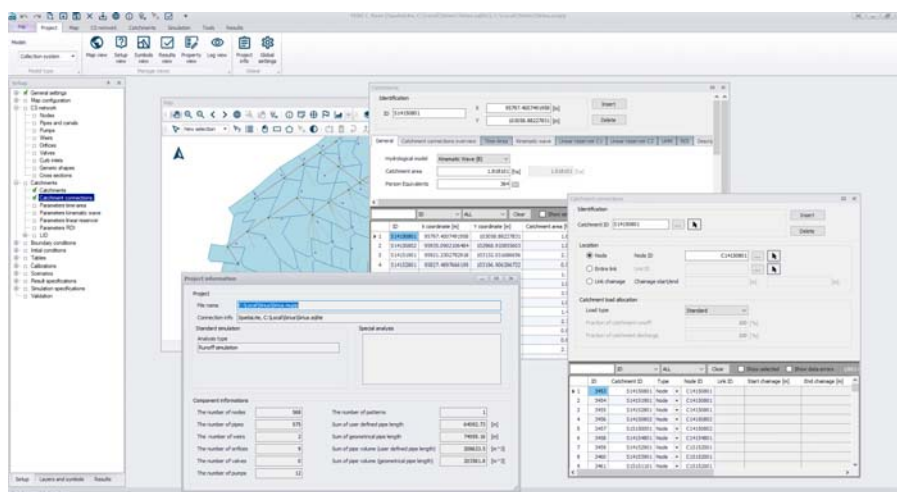

Figure 2.5 MIKE+ user interface with "floating" editors
- When "Floated", editors are displayed in a stack, with the active editor on top. This is shown in Figure 2.5.